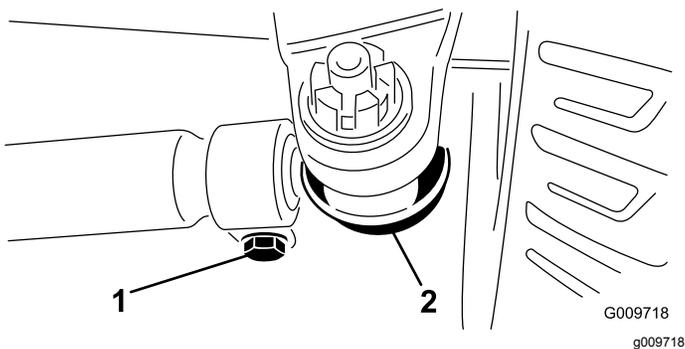

Figure 89
2. To adjust, remove the cotter pin and nut from either tie rod ball joint (Figure 89). Remove the tie-rod ball joint from the axle-case support.
3. Loosen the clamps at both ends of the tie rods (Figure 89).